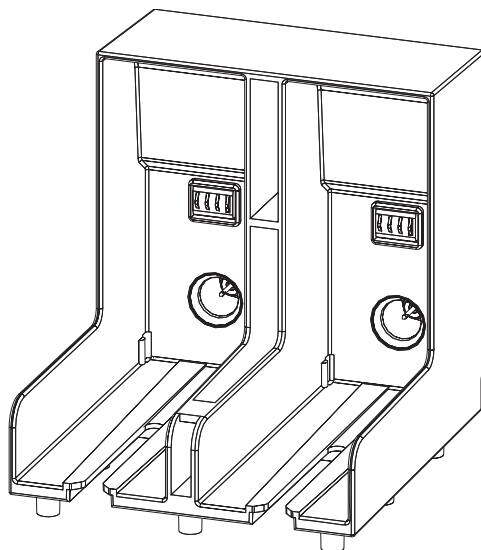

Figure 6-3: Cartridge Holder Slot
- 5 Insert the new ink cartridge into the ink cartridge holder by aligning the cartridge key with the correct holder slot (see Figure 6-3 on page 6-6).